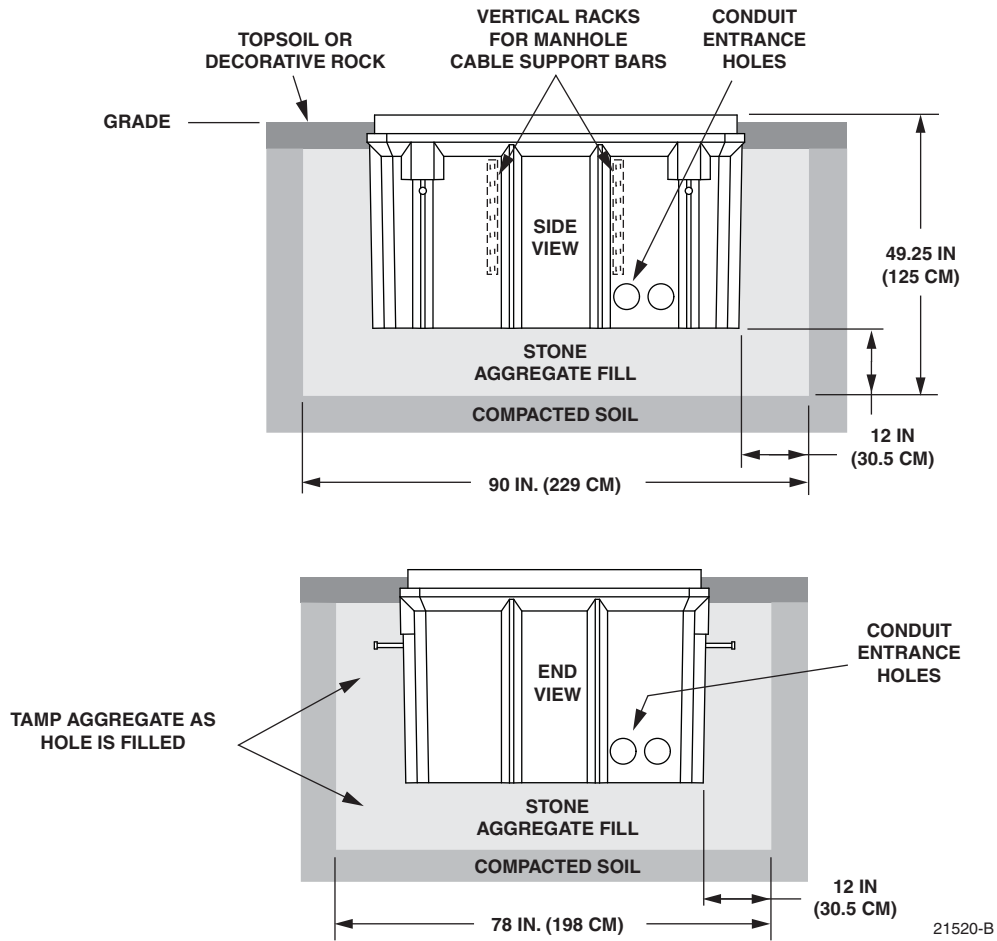

Figure 4. Excavation Recommendations for FMS-ACE300-KIT-A
The excavation must be large enough to provide a fill base that will maintain stability for the FMS and the cabinet mounted on it. There must be room for 12 inches (30.5 cm) of fill below and on each side of the FMS. The excavation dimensions for the FMS are shown in Figure 4. Excavate a rectangular hole for the FMS.
Select the conduit entrance holes (see Figure 4) for the OSP cables. If necessary, additional conduit entrance holes may be cut using a power drill and hole saw. Place and route the conduit into the entrance hole(s). If preferred, the FMS may be installed without conduit. OSP cables may be routed into the FMS at any point that is convenient. Cut the cable entrance hole to match the size of the cable.
2. Complete the back-fill with crushed rock or topsoil depending on the landscaping requirements. The top surface of the mounting sleeve may be located from 0 to 4 inches (10.2 cm) above the surrounding grade (see Figure 4).